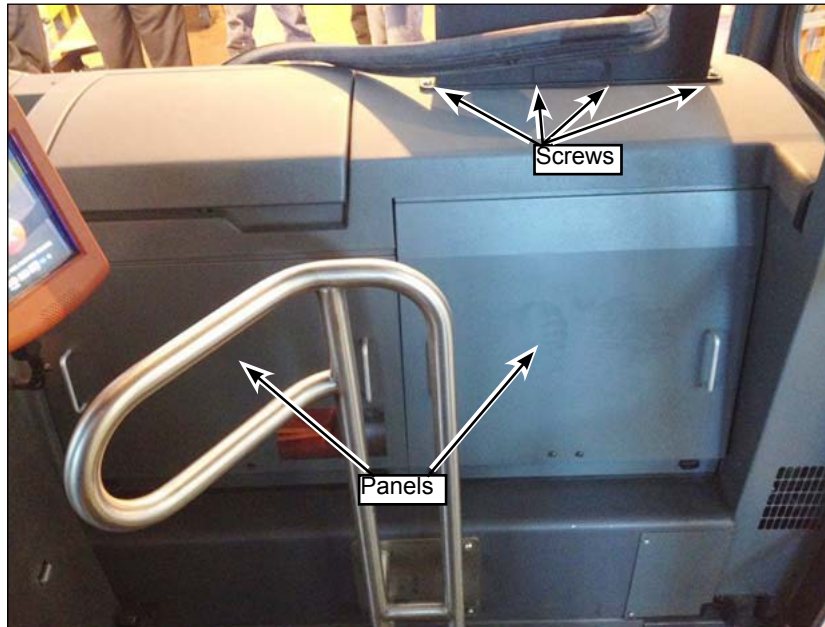

Figure 13 - Remove Panels and Screws
- 1.13. Remove the two bottom dashboard panels and remove the four screws that secure the run number box. Retain all parts for reinstallation once the repair is complete (see Figure 13).